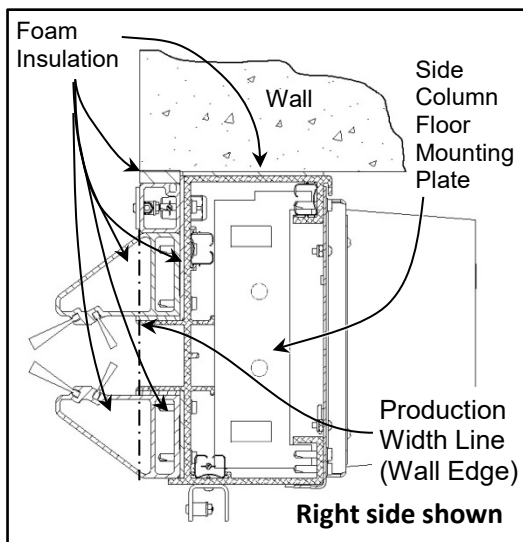

Figure 12
3. Stand one side column on the floor. Place it against the wall on the appropriate side of the door opening (i.e. left on left side, right on the right side), just outside the line indicating the production width of the door. Use clamps as needed. (See Figure 12)
- Once the side column is set plumb and square, mark the center of the slot locations and the column edges on the wall. Pre-drilled anchor points have been provided in the side column. Remove the side column and drill anchor holes in the wall. Reset the side column plumb and square. Anchor it to the wall. **DO NOT** fully tighten the anchors at this time - they will be tightened later in the installation after the head assembly is installed. (See Figures 12 - 14)